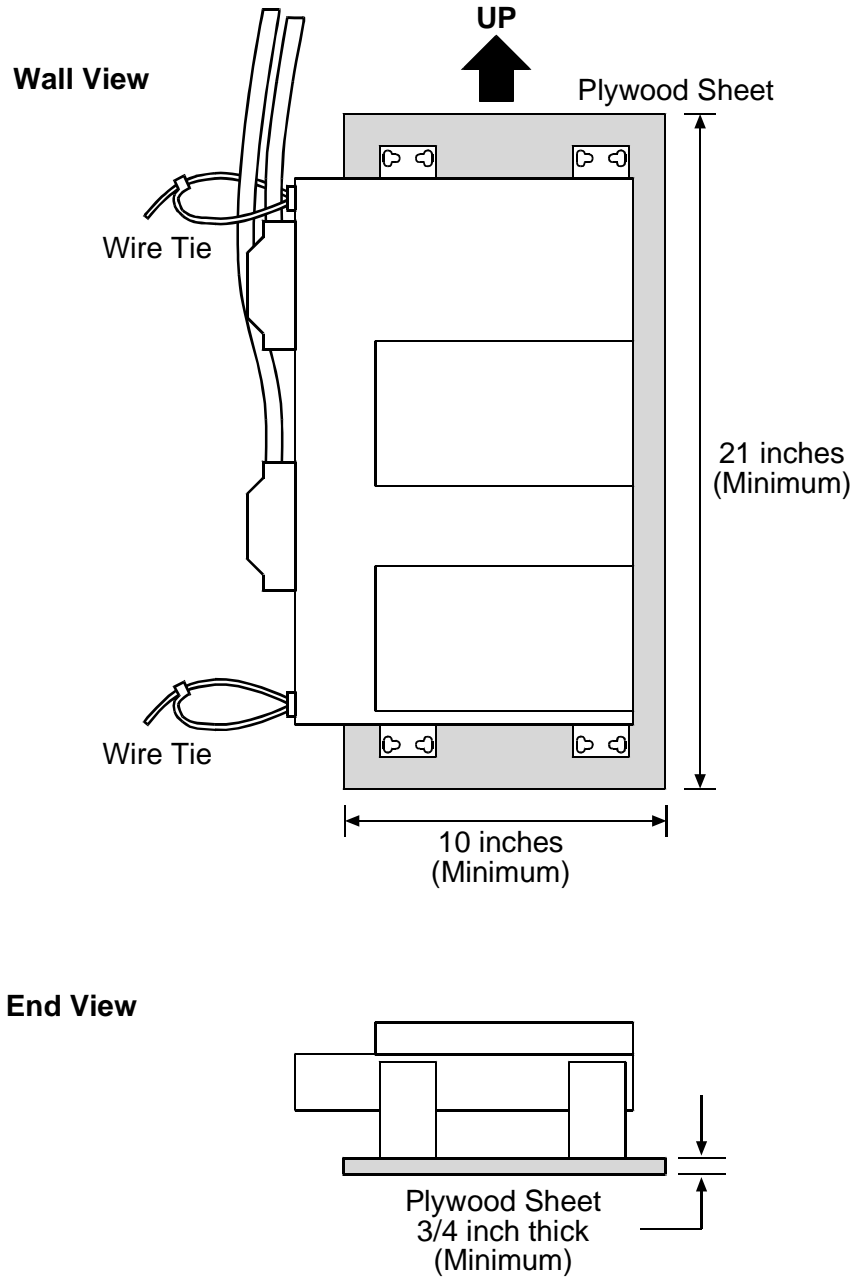

Figure 5-11. Plywood Sheet, Minimum Size
**CAUTION!** ACCESS NAVIGATOR REQUIRES FREE AIR SPACE ON TOP, BOTTOM, AND ENDS OF CHASSIS FOR AIR CIRCULATION. INSUFFICIENT VENTILATION MAY CAUSE SERVICE INTERRUPTIONS, RESULTING FROM EQUIPMENT OVERHEATING AND SHUTTING DOWN. DO NOT ALLOW CABLES AND OTHER COMPONENTS TO OBSTRUCT AIR CIRCULATION. THE ACCESS NAVIGATOR INCLUDES TIE POINTS FOR ATTACHING WIRE TIES TO SECURE CABLES TO REAR PANEL WITHOUT OBSTRUCTING AIR FLOW (SEE FIGURE 5-11).
1. Ensure that plywood is large enough to hold the Access Navigator (see Figure 5-11 on page 5-19). Plywood should extend at least 1 inch beyond brackets.